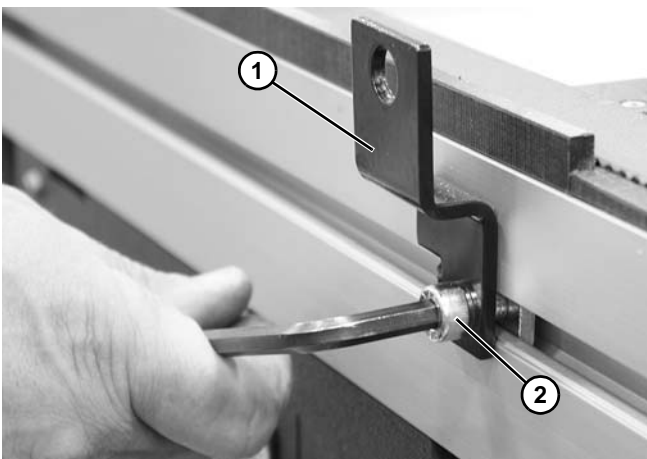

**Figure 8**
1. Install cam follower nut (**Figure 8, item 1**) into conveyor channel.